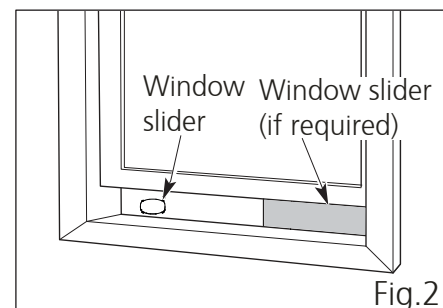

Fig.2
2. Insert the window slider assembly into the window track. If the hose opening is covered by the lip of the window frame, rotate the panel so the thicker side faces the window frame.(see Fig.2)